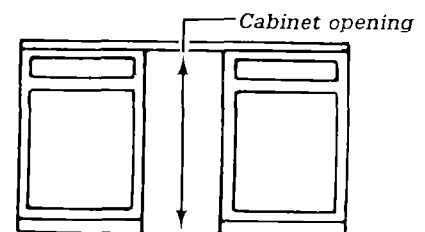

Figure 9
8. Measure the cabinet opening as shown in Figure 9. The rear wheels of your compactor are preset for a minimum cabinet opening of 34" (position "A").